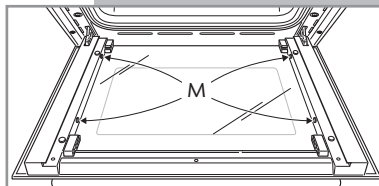

Fig. 54
- Check that the four rubber pads are in place (**M** in fig. 54).